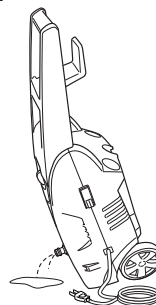

Fig. 23
- (1) Loosen the ring.
- (2) Remove the high-pressure hose from the washer's water outlet.
- (3) Drain all residual water from the high-pressure hose.
4. Drain the water from the washer (Fig. 23)